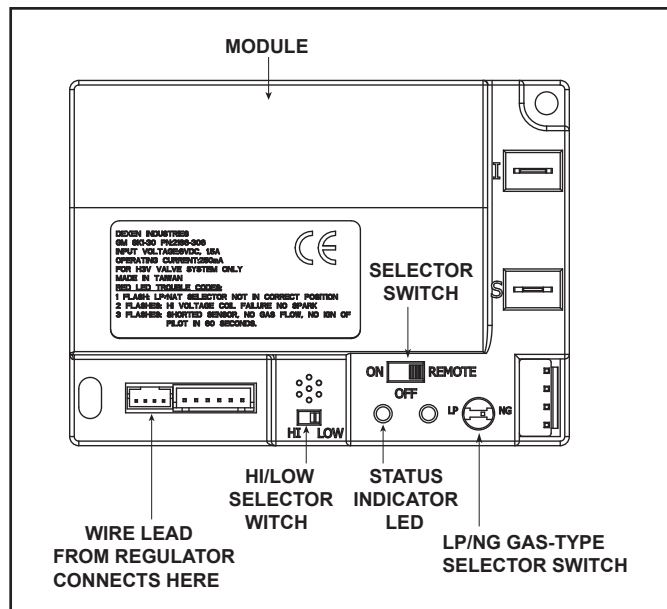

Figure 3.7 Control Module
1. The control module has an ON/OFF/REMOTE selector switch that must be set. See Figure 3.7.
2. If using a wired wall switch with the module in REMOTE mode, the flame output can be adjusted with the HI/LO selector switch on the module. See Figure 3.7. Note that the flame HI/LO selector switch will become inactive once an remote control (RC300AU) is programmed to the control module. Note that the control module will always ignite the fireplace on HI and remain so for the initial 10 seconds of operation. If the HI/LO is switched to the LO position, the flame output will automatically drop to the lowest setting after the flame has been established for 10 seconds. After this 10 second period, the flame can be adjusted from HI to LO with the switch.
- Locate the module selector switch. (See Figure 3.7).
- Wait five (5) minutes to allow possible accumulated gas to clear.